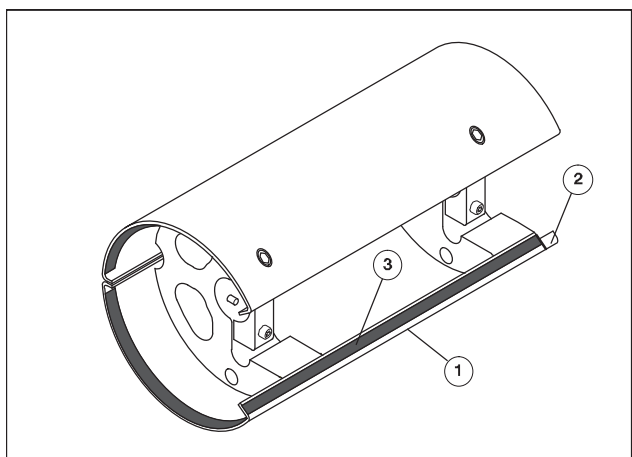

Fig. 19 Super Blue delivery drum: installing the base cover
1. Rotate the press until the front edge (Fig. 19/1) of the Super Blue delivery drum with the black Velcro strip is accessible.
2. Press the blue Velcro tape of the base cover onto the black Velcro tape at the sheet-metal jacket (Fig. 19/3).
3. Firmly press together the Velcro tape at the recess of the base cover and the sheet-metal jacket on O.S. (Fig. 19/2).